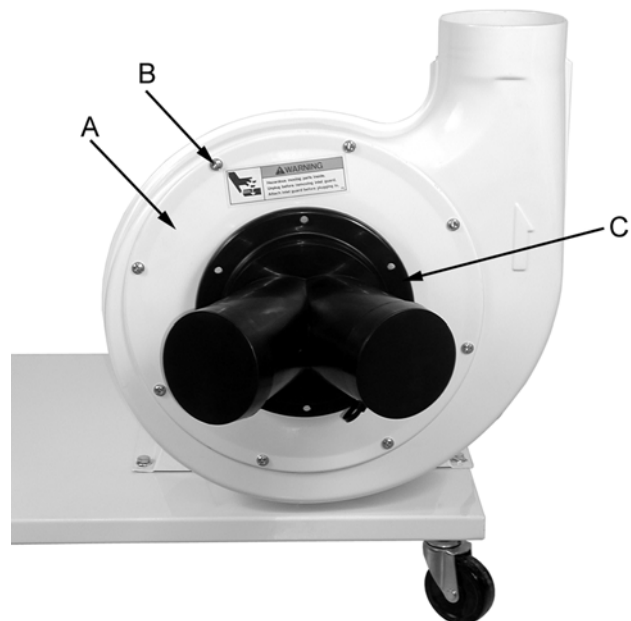

Figure 3
4. Attach inlet guard (A, Fig. 3) to fan housing using eight M6 x 12 pan head screws (B, Fig. 3). Press the inlet ports (C, Fig. 3) onto the inlet guard until it snaps into place.